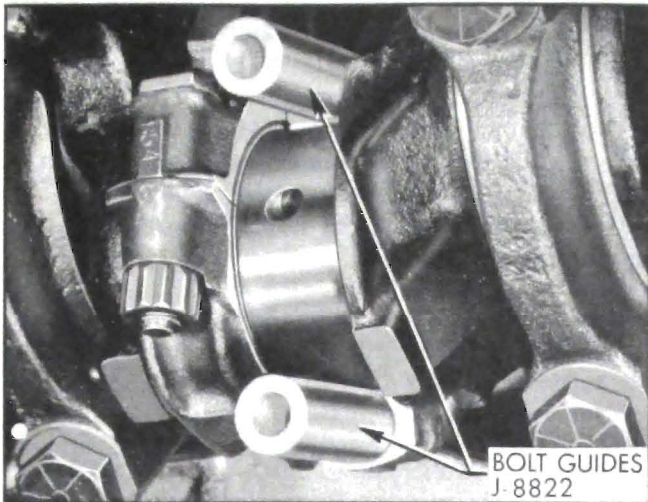

Figure 2-43—Connecting Rod Bolt Guides Installed
4. With number 4 crankpin straight down, remove cap and bearing shell from number 1 connecting rod. Install connecting rod bolt guides on the bolts to hold the upper half of the bearing shell in place. See Figure 2-43.